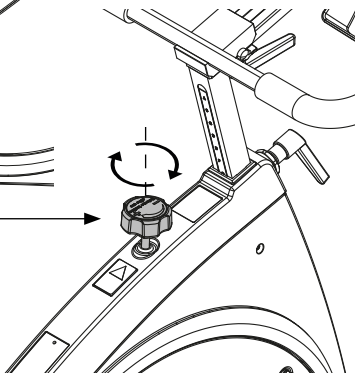

Figure 12
- 2) Put maximum resistance on the brake, so the pedal-arm is unable to rotate, see figure 12